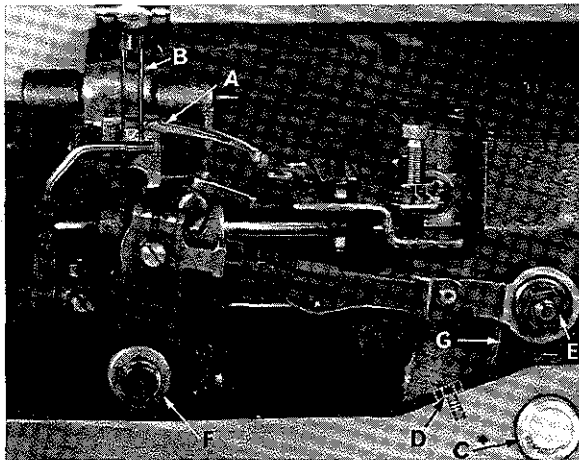
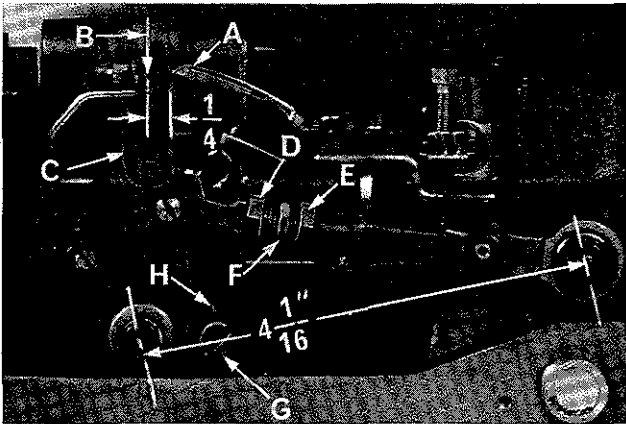

Fig. 5
Fig. 6
Insert the looper in the looper rocker and turn handwheel in operating direction until the point of the looper (A, Fig. 5), moving to the left is even with the left side of right needle (B). Note the height of the eye of the needle with respect to the looper point, then turn handwheel in the reverse direction until the looper point again moves to the left, and is even with the left side of the right needle. If the motions synchronize, the height of the eye of the needle with respect to the looper point will be the same. A variation of .005 inch is allowable. If the distance from the eye of the needle to the point of the looper is greatest when the pulley is turned in the operating direction, move the looper drive shaft synchronizing stud (C) to the rear. Moving it in the opposite direction acts the reverse.
Moving of the looper drive lever shaft synchronizing stud is accomplished as follows: Loosen the clamp screw (D, Fig. 5) of the looper drive lever. To move stud to rear (away from operator), a light tap with a small hammer, directly on the stud, is all that is required. To move stud forward (toward operator), remove the cloth plate, throat plate support, oil reservoir top cover and oil reservoir back cover, then, a light tap on the looper drive lever rocker shaft, toward the operator, is all that is required. Then, using the looper drive lever to take up the end play between the looper drive lever rocker shaft and its synchronizing stud, tighten the looper drive lever on the shaft, using screw (D, Fig. 5).
With the looper at the extreme right end of its travel, check the location of the center line of the right looper connecting rod bearing, using gauge No. 21227 CX. Remove nut (E, Fig. 5) and place hole in gauge over threaded stud. The left end of the gauge should locate against the right side of the looper rocker cone (F). If adjustment is necessary, loosen the clamp screw (D) and reposition the looper drive lever (G) as required. Tighten clamp screw. If gauge is not available setting can be checked with a scale. The distance between the center line of the looper rocker cone and the center line of the looper lever stud should be  $4 \frac{1}{16}$  inch (Fig. 6).
Insert a new needle in the right needle seat, type and size as specified. If the looper gauge is  $\frac{1}{4}$  inch, for example, set the looper (A, Fig. 6) so the distance from the center of the right needle (B) to the point of the looper is  $\frac{1}{4}$  inch, when the looper is at its farthest position to the right. Looper gauge No. 21225- $\frac{1}{4}$  (C) can be used advantageously in making this adjustment. Refer to chart on the following page for needle Type, looper gauge setting and looper gauge number for the various styles of machines. If adjustment is required, loosen nut (D) (it has a left hand thread) and nut (E) on connecting rod (F), turn the connecting rod forward or backward to obtain the  $\frac{1}{4}$  inch dimension. Retighten both nuts, first nut (E). Then nut (D). Make sure the left ball joint is in vertical
If adjustment is necessary, loosen lock screw (G, Fig. 6) and turn stop screw (H) as required. Turning stop screw clockwise sets the looper to the rear and turning it counterclockwise acts the reverse. Holding looper to the front while making this adjustment may prove helpful. Tighten lock screw when setting is obtained and recheck the adjustment. Now insert another needle in the left needle seat.